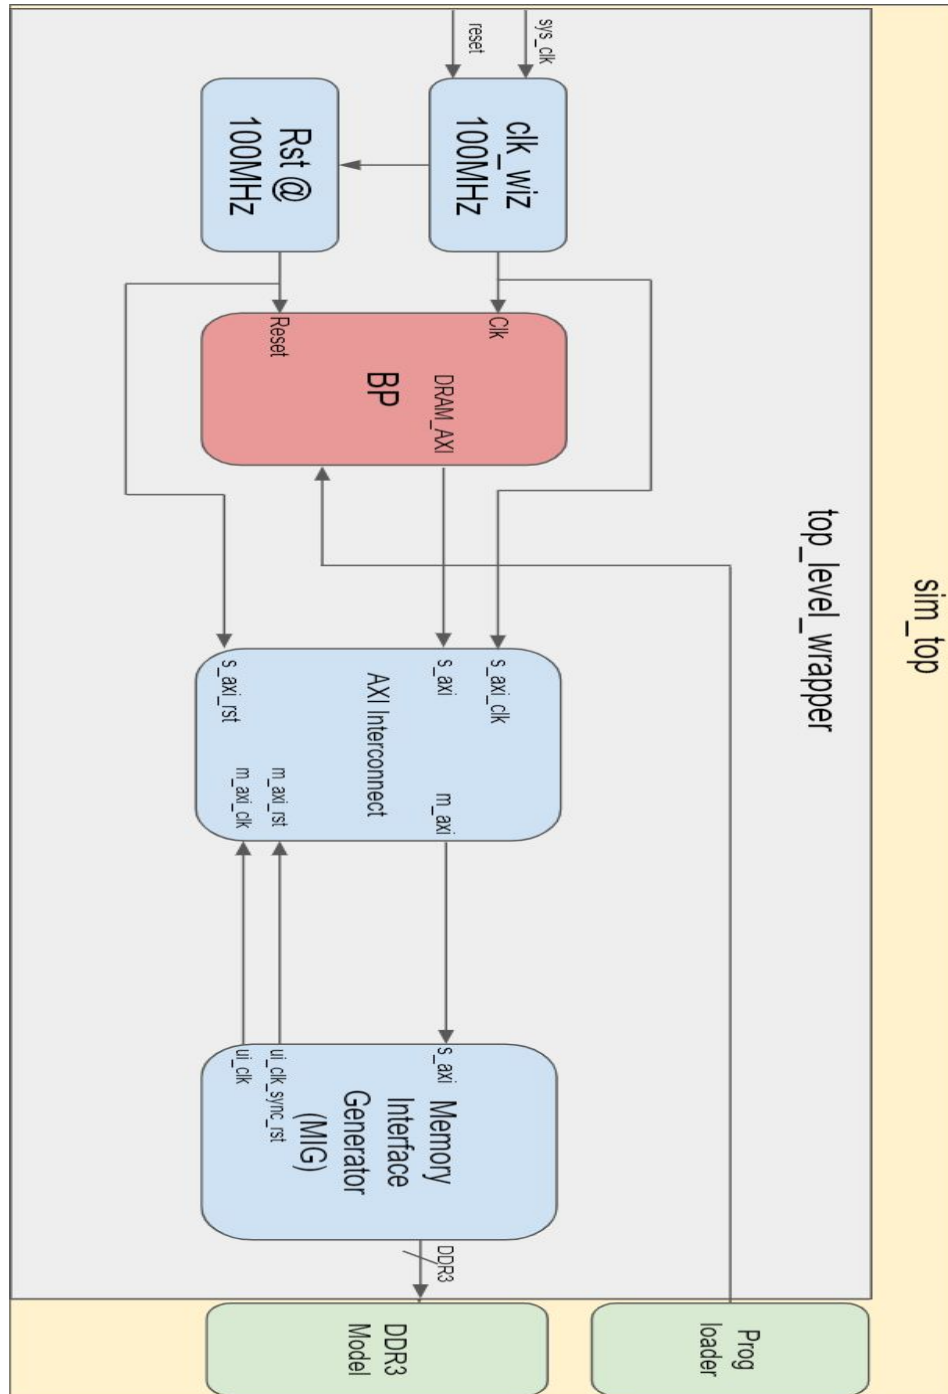

Fig. 8 BlackParrot simulation setup
- 1) Check Fig. 8 for simulation testbench setup